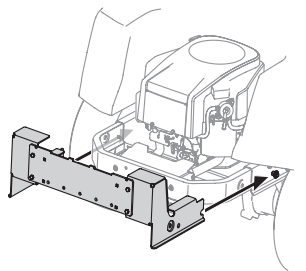

Figure 2
1. Slide the mounting bracket assembly along the frame rails of the tractor until the hooks in the mounting brackets align under the shoulder bolts on your tractor, as shown in Figure 2.